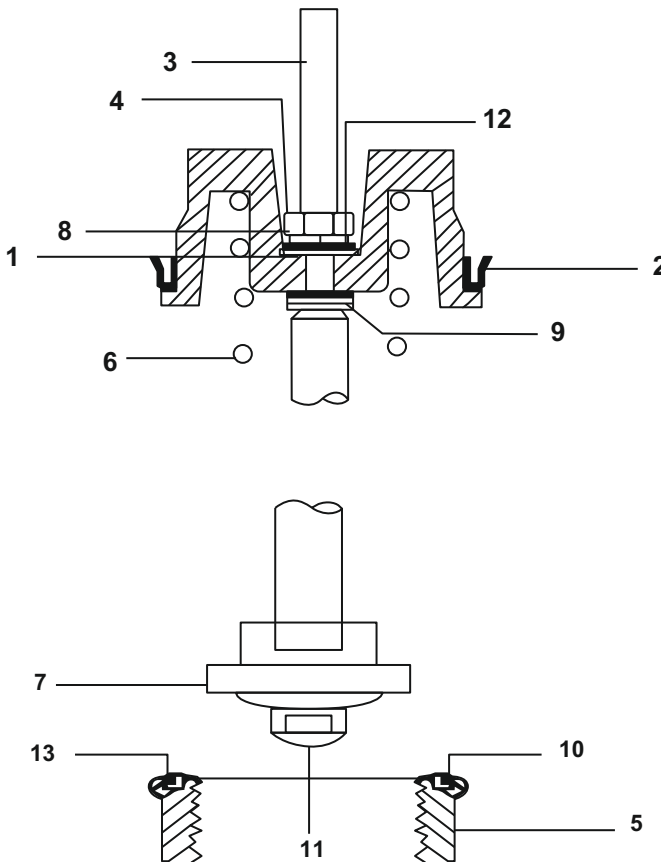

Figure 13: Normally open valves
7.4 Maintenance/Replacement Procedure: (Refer to Figures 13 and 14)